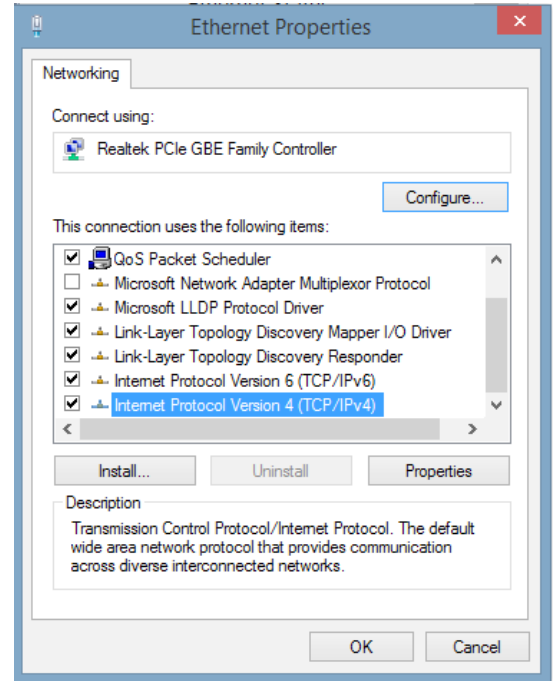

Fig. 2-29, Local Area Connection Properties Screen, Windows 10
6. A dialog box much like Fig. 2-29 will pop up. Click **Internet Protocol (TCP/IPv4)** and then click the **Properties** button.